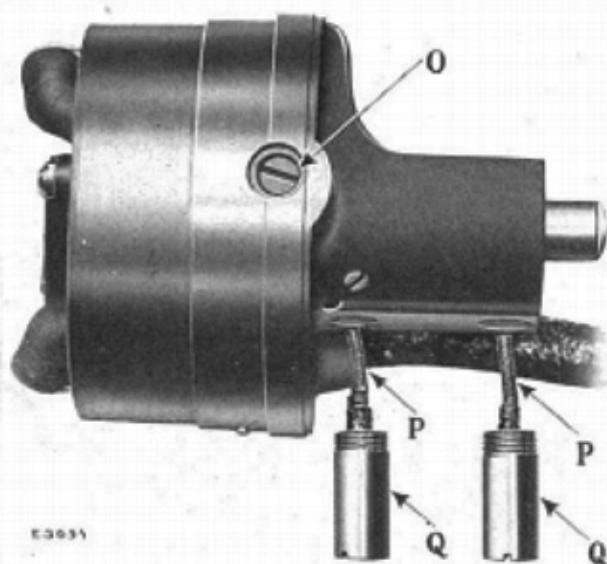
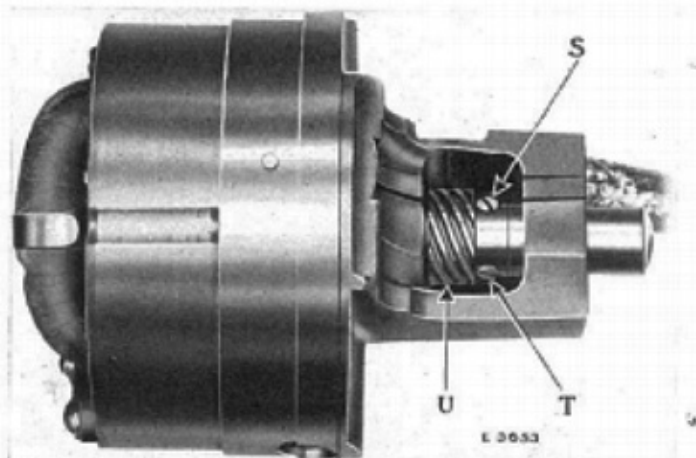
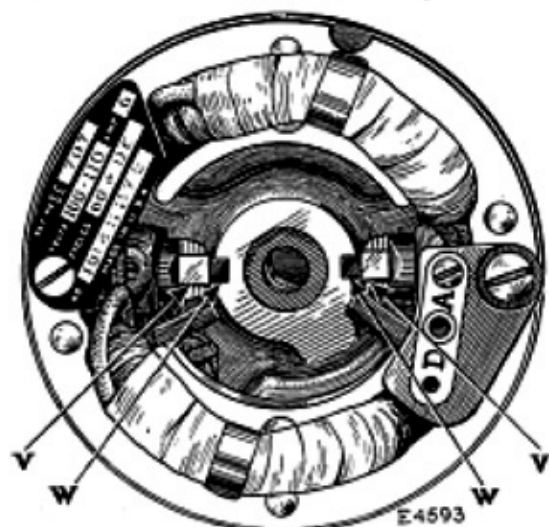
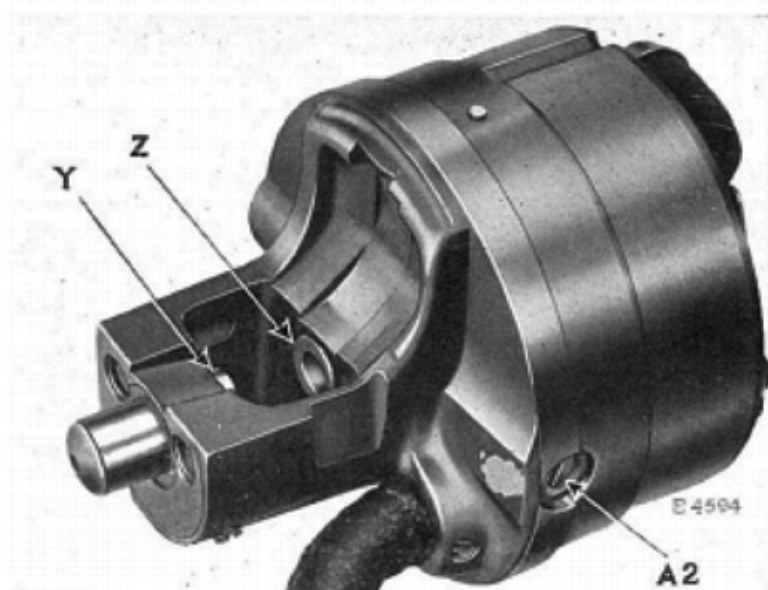

FIG. 11. VIEW OF MOTOR, SHOWING GREASE CUPS REMOVED
FIG. 12. VIEW OF MOTOR, SHOWING SPIRAL DRIVING PINION
FIG. 13. INTERNAL VIEW OF MOTOR, SHOWING BRUSHES AT THE SIDES
Fig. 14. VIEW OF MOTOR SHOWING CLEARANCE BETWEEN BEARINGS FOR SPIRAL DRIVING PINION
6. Carbon brushes (W, Fig. 13, page 13) not making contact due to sticking in brush tubes or on account of grease on the commutator.
Remove the motor from the machine, as instructed on pages 12 and 13, and see if armature turns over freely by running the finger over the spiral pinion (U, Fig. 12, page 12). If the armature turns stiffly, it should be adjusted to turn freely by following the instructions given on page 15.
1. Spiral pinion (U, Fig. 12, page 12) on motor shaft not properly adjusted.
2. No lubricant in grease cups (Q, Fig. 11, page 12).
3. Lubricating wicks (P, Fig. 11, page 12) not touching motor shaft.
4. Brush tubes (V, Fig. 13, page 13) rubbing on commutator.
Remove the two grease cups (Q, Fig. 11, page 12) to prevent the wicks (P, Fig. 11) being sheared off when replacing the armature in the motor frame.
Motors with \*brushes at the sides, as shown at "W" in Fig. 13, have two screws (O, Fig. 11) and (A2, Fig. 14, page 14) one being
Loosen the two set screws (S and T, Fig. 12) in the spiral pinion and withdraw the armature from the motor frame, being careful not to damage the wiring of the armature or the surface of the commutator.
By removing the armature from the motor frame, the spiral pinion (U, Fig. 12) is separated from the armature shaft so that it can be lifted out of the recess between the two motor bearings.
Place the spiral pinion (U, Fig. 12) in the recess between the two bearings in the motor frame, being careful to have the teeth of the spiral pinion toward the armature. Then gently replace the armature in the motor frame, passing the armature shaft through the hole in the spiral pinion (U). Push the armature into the motor frame as far as it will go, then push the spiral pinion against the inner bearing (Z, Fig. 14) in the motor frame, being careful to see that there is no grease or dirt between the pinion and bearing.
Fasten the spiral pinion to the armature shaft by means of the two set screws (S and T, Fig. 12, page 12) tightening first the set screw which bears against the flat part of the shaft. To determine the flat part of the shaft for the spiral pinion set screw, turn the armature shaft until the small flat mill on its end is in line with the set screw in the spiral pinion, then tighten the set screw.
The brush marked with the aluminum must be inserted into the screw hole in the side of the motor frame marked with aluminum, the unmarked end of the brush being inserted first with the marked side of the brush facing toward the marking on the motor frame. This will ensure a perfect contact of the brushes against the commutator surface of the motor. Having inserted the brushes and springs into the brush tubes (V, Fig. 13, page 13) replace the screws (O, Fig. 11, page 12) and (A2, Fig. 14, page 14) and turn each screw inwardly until the top of its head is flush with the top edge of the fibre tube.
See if motor armature turns over freely by running the finger over the spiral pinion (U, Fig. 12, page 12). If it turns stiffly, the spiral pinion may be set too tight against the inner bearing (Z, Fig. 14). In this case, insert a piece of heavy wire through the small hole in centre of the end of the outer bearing (Y, Fig. 14) and gently tap the wire until the armature turns freely without end play. The clearance for the spiral pinion (U) between the two motor bearings (Y and Z, Fig. 14) must be only sufficient to allow the spiral pinion to rotate without friction. Too much clearance will cause the armature to vibrate when running, making the motor noisy. If there is too much clearance, gently tap the end of the outer bearing (Y, Fig. 14) toward the spiral pinion.
Fill the two grease cups (Q, Fig. 11, page 12) with Singer Motor Lubricant. See that the two felt wicks (P, Fig. 11) are not twisted or bent, as the ends of the wicks must press positively against the motor shaft to ensure proper lubrication. Replace the grease cups in the motor frame, being careful to insert the wicks into the holes in the motor bearings. Then thoroughly grease the spiral pinion (U, Fig. 12, page 12) with Singer Motor Lubricant.